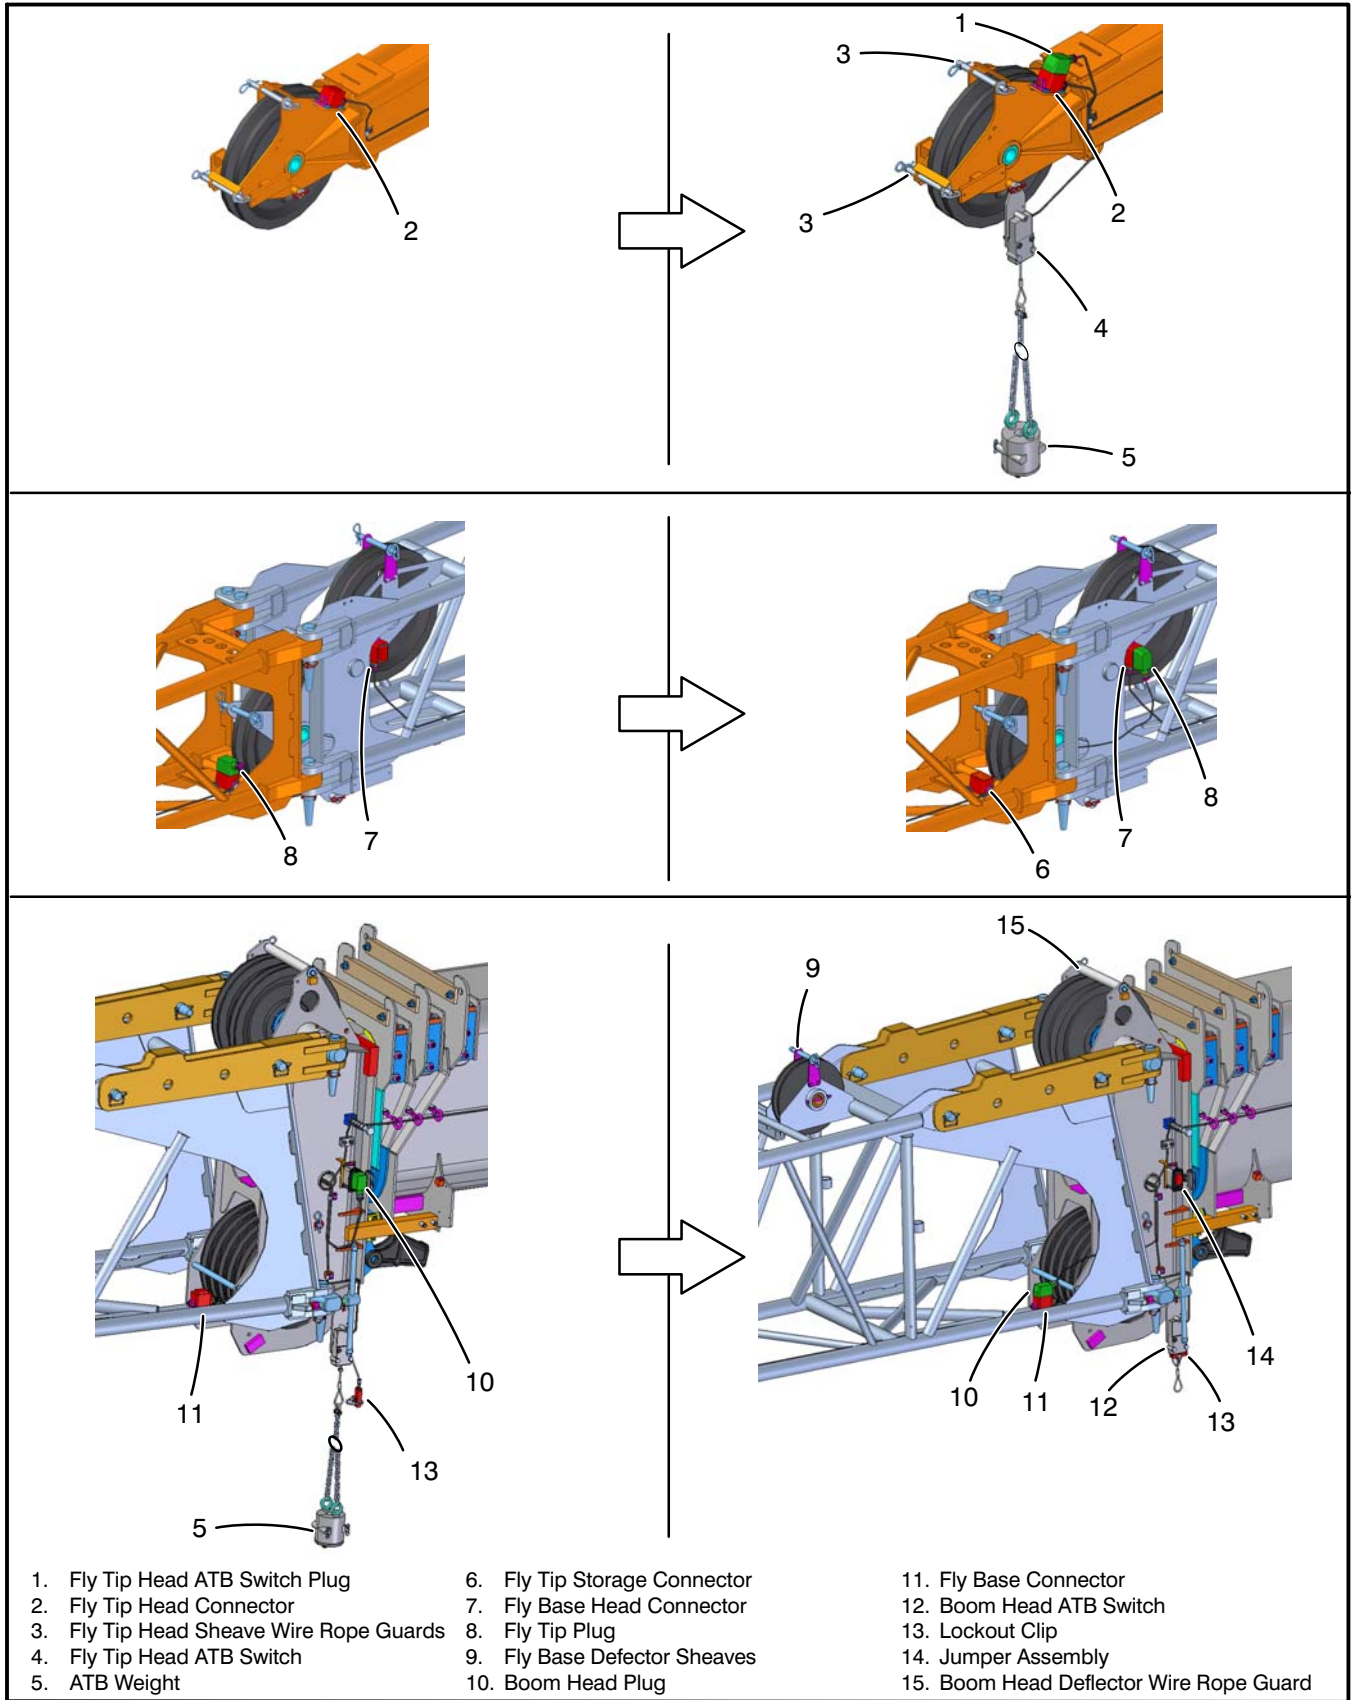

Figure 4–33
5. Pin the fly base and tip together on secure blocking. Refer to Figure 4–30. The fly base section weighs approximately 1,595 lb (723kg) and the fly tip section approximately 701 lb (318kg).
8. Remove the four fly connecting pins from the storage location at the rear of the fly base section. Refer to Figure 4–30. Install all four pins to connect the fly lugs to the head machinery cross shafts on
the right side of the boom. Refer to Figure 4–31. (Install the pins with the head on top and keeper on the bottom.) Install the pin keepers.